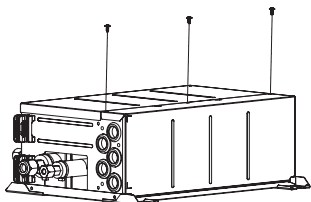

Fig. 4-5
4.1. The direction of the piping can be changed. (Fig. 4-4). [Work Procedures] (Fig. 4-5)
① Remove the screws in each part.